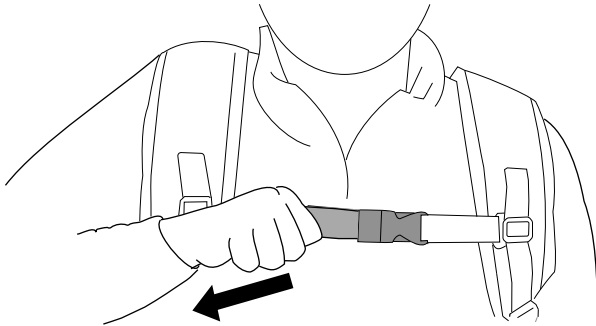

Figure 7
4. Tighten the sternum strap so that it is snug (Figure 7).